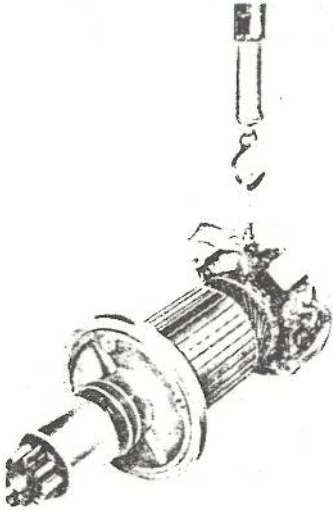

Fig. 10-106
b) The brush spring tip should be hooked with a spring balance thereby checking its pressure as illustrated in Fig. 10-106. The balance should be pulled in parallel with the brush to measure the force required for the spring to release from the brush. The brush strength is normally of the order of 0.9 - 1.1 kg.
(2) Inspecting the gear case